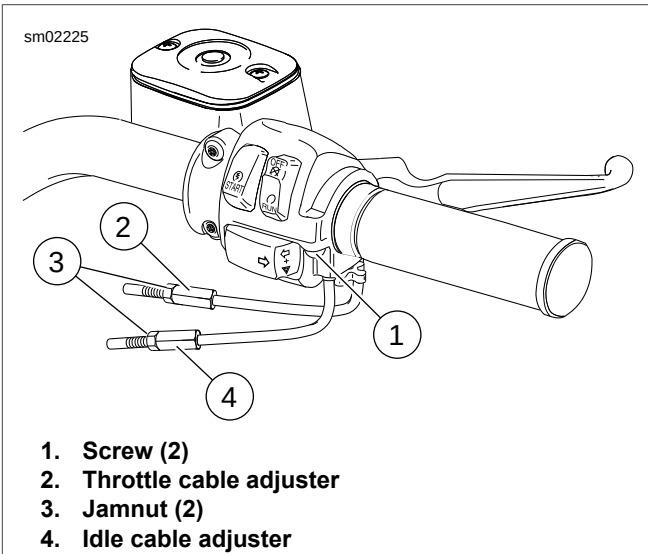
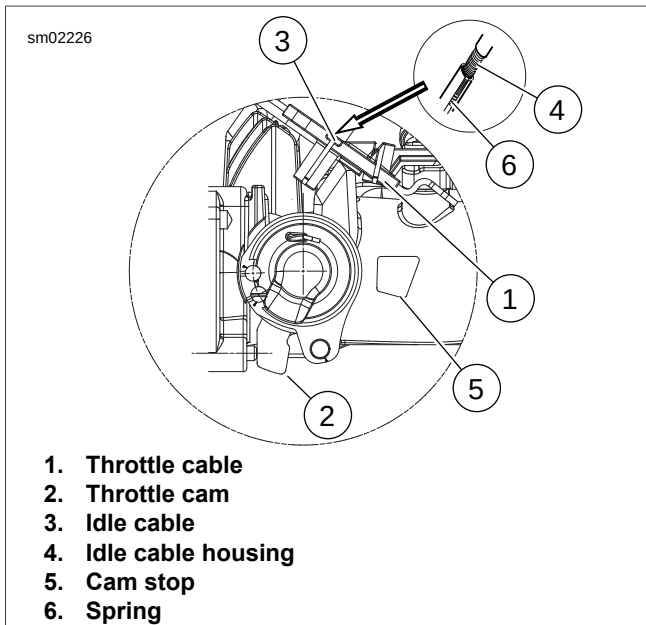

Figure 1-26. Throttle Cable Adjusters
Figure 1-27. Induction Module Cable Connection
1. See Figure 1-26. Remove two screws (1) to separate the upper handlebar module housing from the lower housing.
1. See Figure 1-26. Slide rubber boot off throttle cable adjuster mechanism (2).
3. Back jamnut (3) away from cable adjuster until it stops. Turn cable adjuster clockwise until it contacts jamnut. Repeat procedure on idle cable adjuster.
4. See Figure 1-27. Point front wheel straight ahead. Gently turn throttle grip so throttle is wide open. Hold this position. Turn throttle cable adjuster counterclockwise until throttle cam (2) just touches cam stop (5) on induction module.
6. Turn the front wheel full right. Turn the idle cable adjuster counterclockwise until the idle cable housing (4) just touches the spring (6) in the cable guide (as seen through slot).